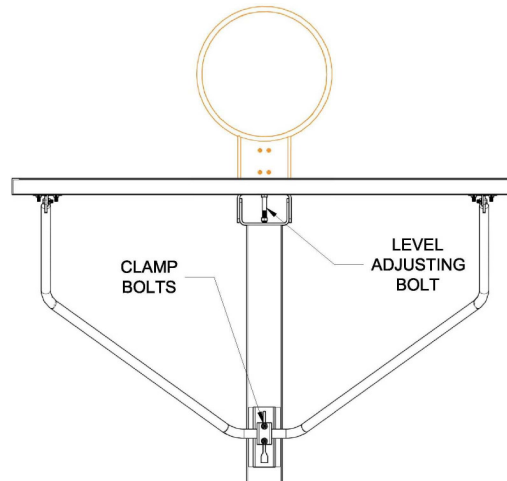

Figure 11
20. To level the backboard in the vertical plane, loosen the two carriage bolts at the board brace clamp on top of the boom. Refer to Figure 11. Using a 3/4" wrench, adjust the leveling bolt in the board mounting bracket until the backboard is plumb. Tighten the locking nuts on the leveling bolt. Tighten the two carriage bolts at the brace clamp and the two carriage bolts at each corner bracket securely.